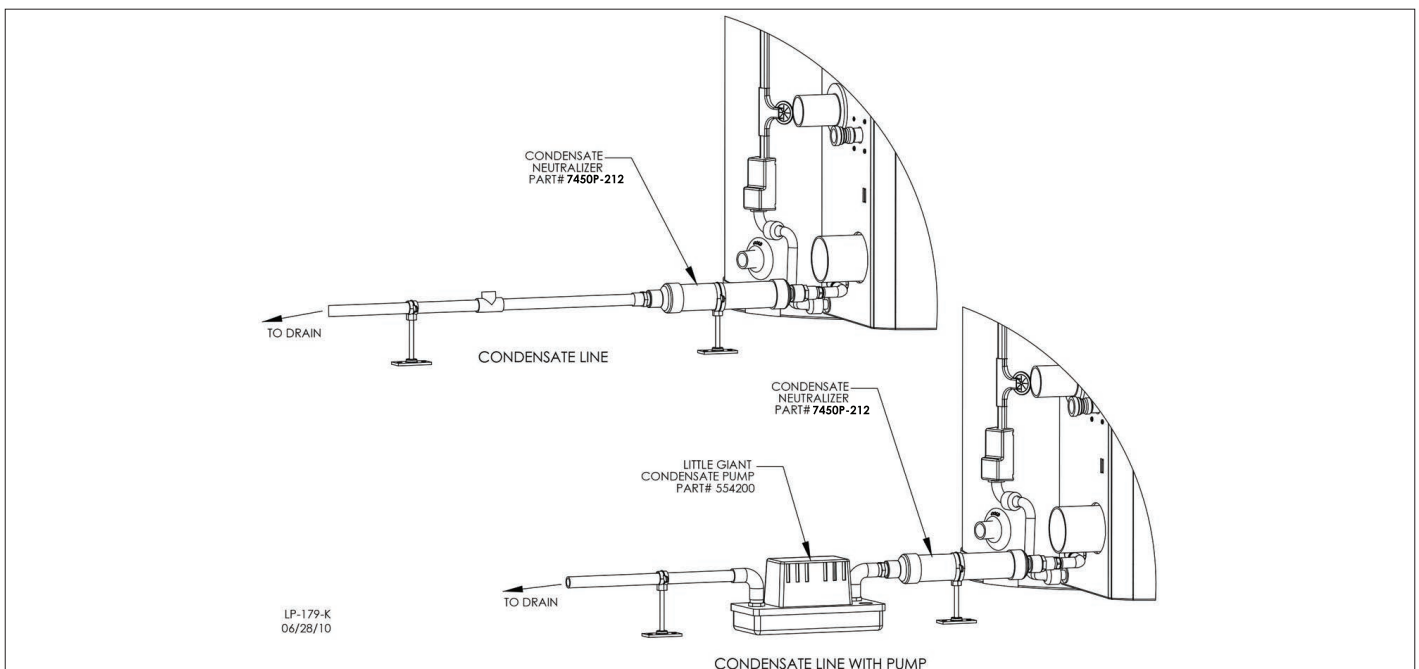

Figure 24 - Condensate Piping
8. Local building codes may require an in-line neutralizer to be installed (not included) to treat the condensate. See Figure 24. If required by local authorities, a condensate filter of lime crystals, marble, or phosphate chips will neutralize slightly acidic condensate (p/n 7450P-212 available from HTP). Follow all the installation instructions included with the neutralizer. If a neutralizer is installed, periodic replacement of the limestone (or neutralizing agent) will be required. The rate of depletion of the limestone varies with usage of the appliance. During the first year of appliance operation, check the neutralizer every few months for depletion.